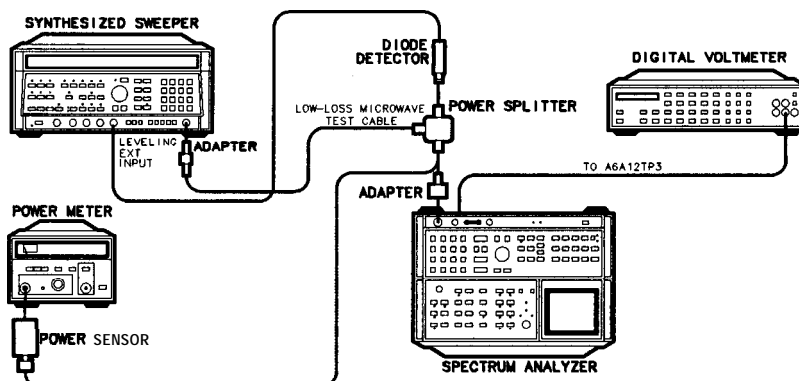

Figure 3-94.
53. Connect the equipment as shown in Figure 3-94, with one resistive output of the power splitter connected to the power meter/power sensor using an APC 3.5 (m) to Type N (f) adapter, and the second resistive output connected to the diode detector. Connect the diode detector SMC output to the synthesized